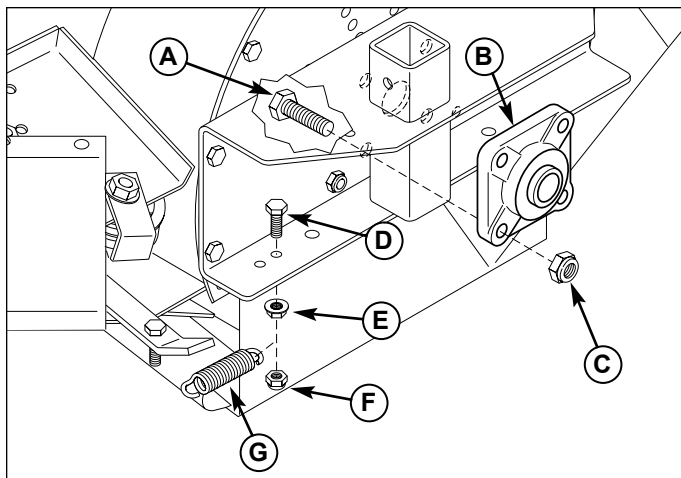

Figure 26. Install Bearing & Spring
6. Install the bearing (B, Figure 26) on the shaft with the grease fitting pointing towards the discharge of the blower. Secure with the four 7/16 x 1-1/2" bolts (A) and 7/16-14 nylon lock nuts (C) as shown. Tighten the setscrew in the collar of the bearing.
7. Install the 5/16" x 1-1/4" bolt (D), 5/16" serrated flange nut (E) as shown and tighten.
8. Install the spring (G) on the 5/16" bolt (D) on the blower mount and install the 5/16" nylon lock nut (F). Only tighten the nuts until the threads come through the nylon. Do not clamp spring.